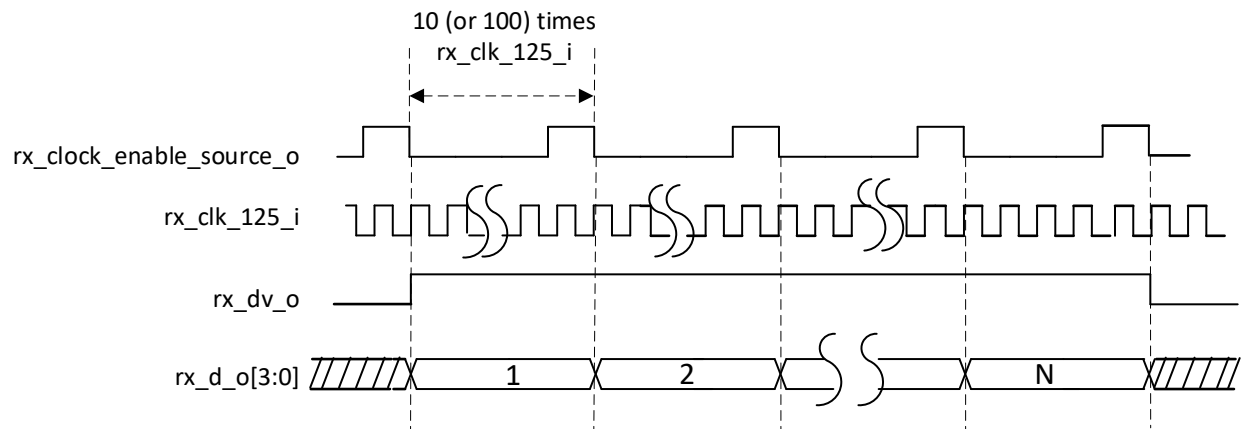

Figure 2.3. SGMII RX-Side Signals Relationship
2. Connect rx\_clock\_enable\_sink\_i to rx\_clock\_enable\_source\_o. Relationships between RX-side signals are shown in Figure 2.3.